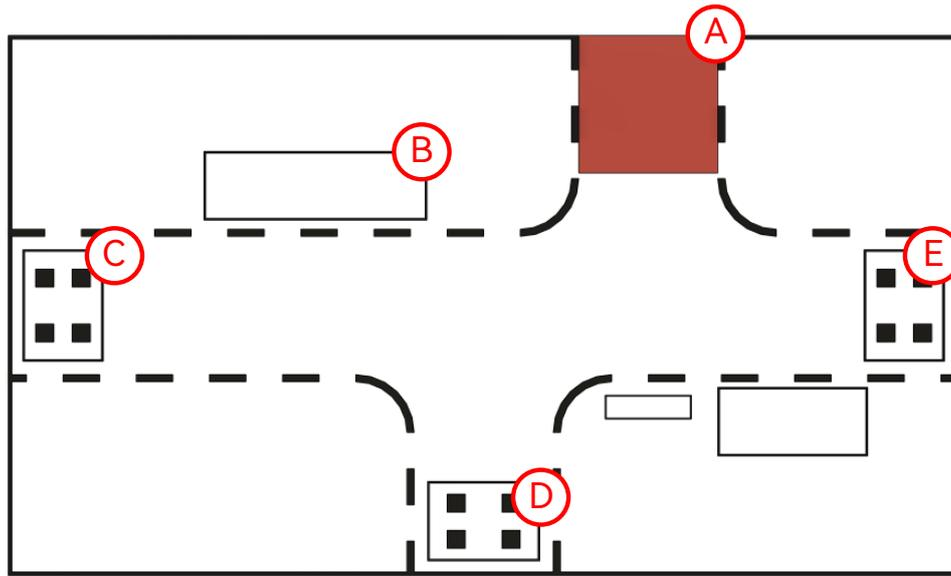
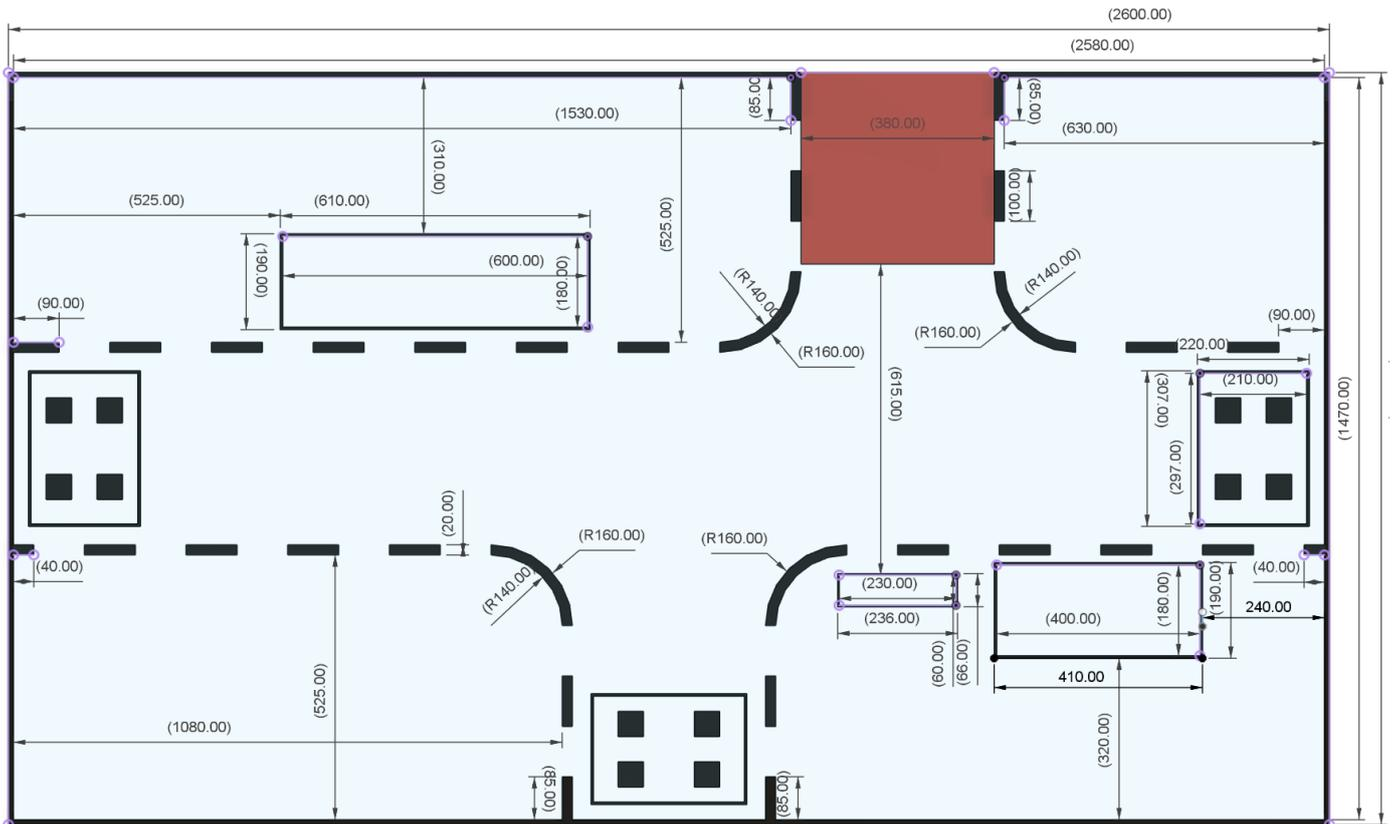

Figure 2. Overview Diagram of the Overall Competition Field
Figure 3. Overall Competition Field Dimensions (Unit: mm)
- 5.11 As shown in Figure 2, the competition field is roughly divided into five areas: the starting area, the drop-off area and three cargo collection areas. The dimensions of the field are 260 cm by 149 cm (with a 1 cm wide outer boundary line). For more details, see Figure 3.
- 5.12 The roads on the field are 38 cm wide. Both sides of the road are marked with black dashed lines, with each dash and the gap between dashes measuring 10 cm in length and 2 cm in width. (The length of the dashed lines near the edge of the map will be indicated separately in Figure 3.) The field will include walls with a height of 20 cm.
- 5.14 Drop-off Area (Area B) – A checkered area where cargo is delivered. Its inner dimensions are 60 cm × 18 cm (with a 5 mm border). Inside this drop-off area, a cargo placement area (30 cm × 9 cm, as shown in Figure 3) will be placed at a random location.
7.11 As shown in Figure 9, the field for the Autonomous Movement Challenge is divided into five areas: the start area, the signboard area, and three stopping areas. The field's outer dimensions are 260 cm × 160 cm. (The field layout and dimensions are the same as in the Overall Competition in Figure 3.)